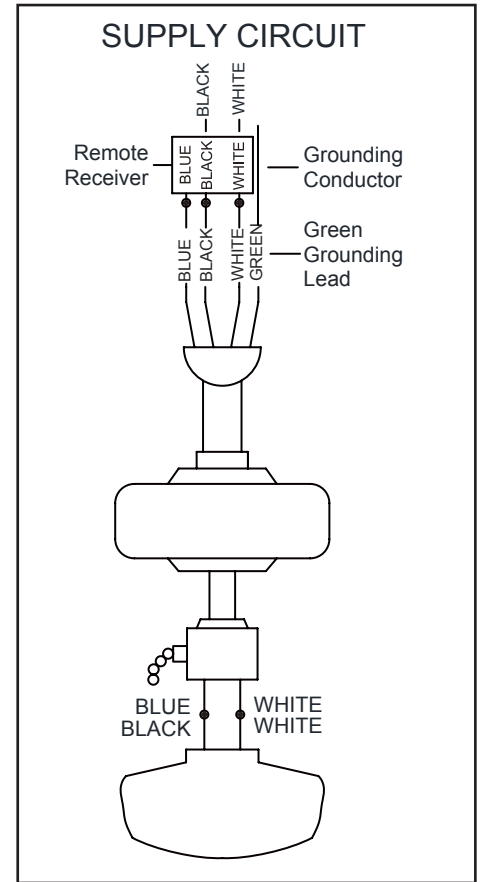

Figure 11
Follow the steps below to connect the fan to your household wiring. Use the wire connecting nuts supplied with your fan and supplied with remote control. Secure the connectors with electrical tape. Make sure there are no loose strands or connections. (Figure 11)
1. Connect the ground conductor of the 120v supply (this may be a bare wire or a wire with green colored insulation) to the green ground lead(s) of the fan (Figure 11).
2. Connect the fan motor white wire to the receiver white wire using a wire nut (Figure 11).
3. Connect the fan motor black wire to the receiver black wire using a wire nut (Figure 11).
4. Connect the fan motor blue wire to the receiver blue wire using a wire nut (Figure 11).
5. Connect the receiver black wire to the supply black (hot) wire using a wire nut (Figure 11).
6. Connect the receiver white wire to the supply white (neutral) wire using a wire nut (Figure 11).